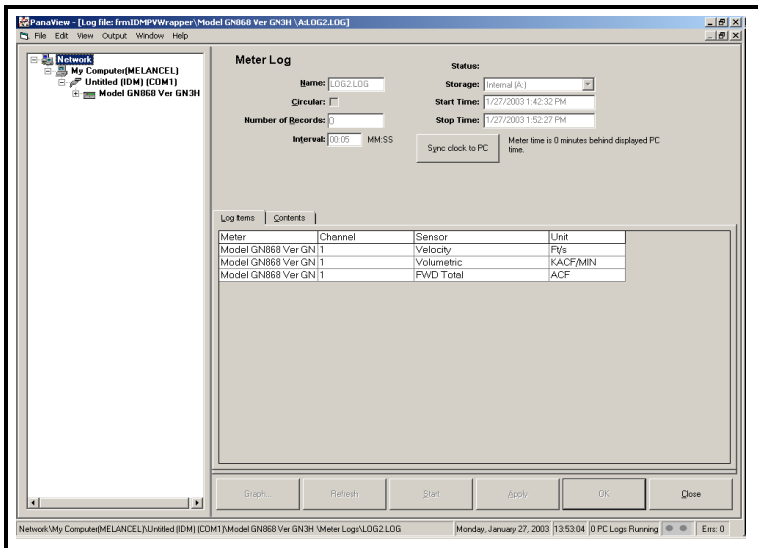

Figure 6-19: The Meter Log Window
3. At the “*Meter Log*” window shown in Figure 6-19 above, the following log specifications may be entered:
- Click on the "Log Items" tab (see Figure 6-19 on page 6-20) for a list of the parameters specified for logging.
- Click on the "Contents" tab (see Figure 6-19 on page 6-20) for a list of all the data points logged to date for the parameter currently highlighted on the "Log Items" tab.